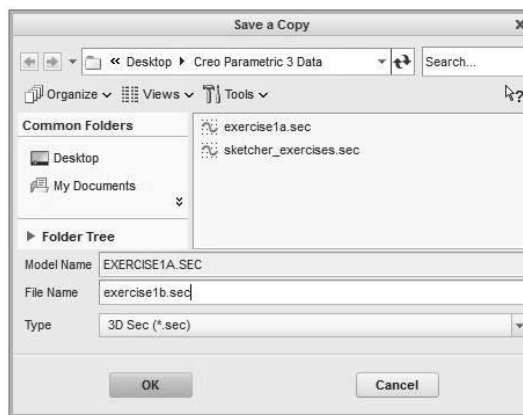

Figure 3-59 Save As “exercise1b.sec”
Step 23: In the New Name area, type “exercise1b.sec,” then *pick* **OK**. Do not change the model name. See Figure 3-59.